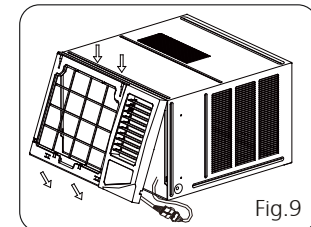

Fig.9
1. Hook the upper edge of the frame. Then connect the coupler plugs and make sure not to interfere with the temperature sensor cable. (see Fig.9).